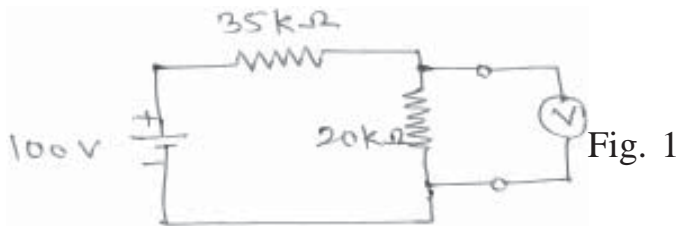

Fig. 1
- b) Voltage across $20\text{ K}\Omega$ resistor is to be measured by a voltmeter having sensitivity of $1000\Omega/V$ Range of meter is 75V . Determine the accuracy of voltmeter Refer Fig.1. 8